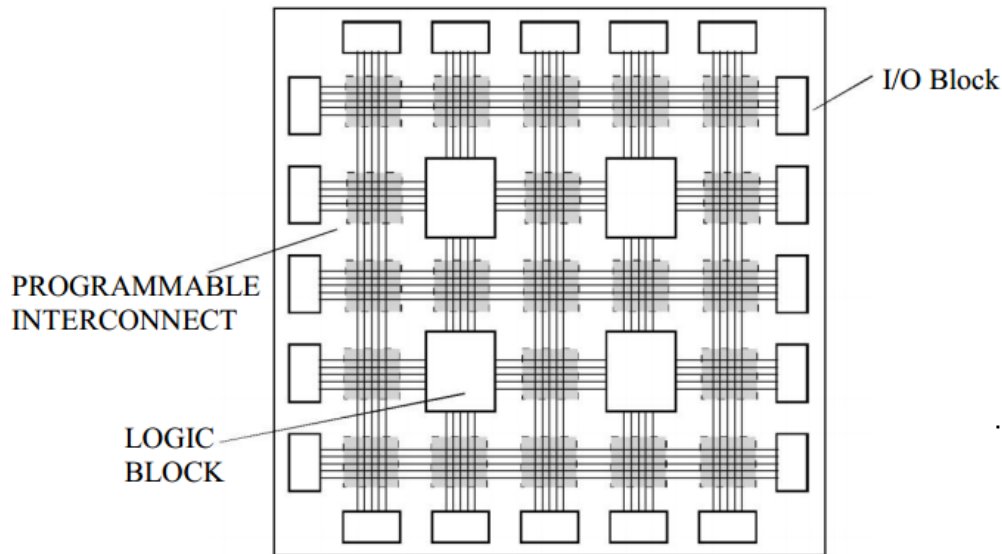

Fig. 1. Basic Layout of FPGA
Field Programmable Gate Array (FPGA) is an integrated circuit which can be configured after manufacturing. FPGAs contain programmable logic named logic elements (LE) and configurable interconnects that allow blocks to be wired between each other. Each LE is featured with a look up table (LUT), which is a function generator that is able to generate any function with desired number of variables (variable number changes according to the device architecture), a programmable register, a carry chain connection, the ability to drive all types of interconnections: local, row, column, register chain and direct link interconnects and support for register packing and register feedback. In this phase detailed information is not required. As you learn EE348 and EE312 you will understand the operation of logic elements and FPGA more. In Fig. 1, basic layout of FPGA is shown [1].